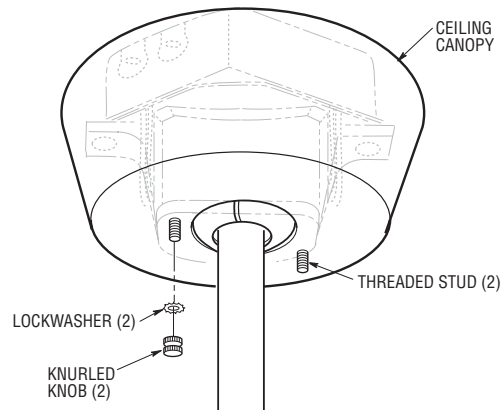

Figure 19
- 5. Lift the ceiling canopy up to the threaded studs and turn until studs protrude through the holes in the ceiling canopy (Figure 19).
- 6. Secure the ceiling canopy in place by sliding lockwashers over the threaded studs and installing the two knurled knobs (supplied). (Figure 19). Tighten the knurled knobs securely until the ceiling canopy fits snugly against the ceiling and the hole in the ceiling canopy is clear of the downrod. Your fan is now wired to be turned on and off from the fan switch.